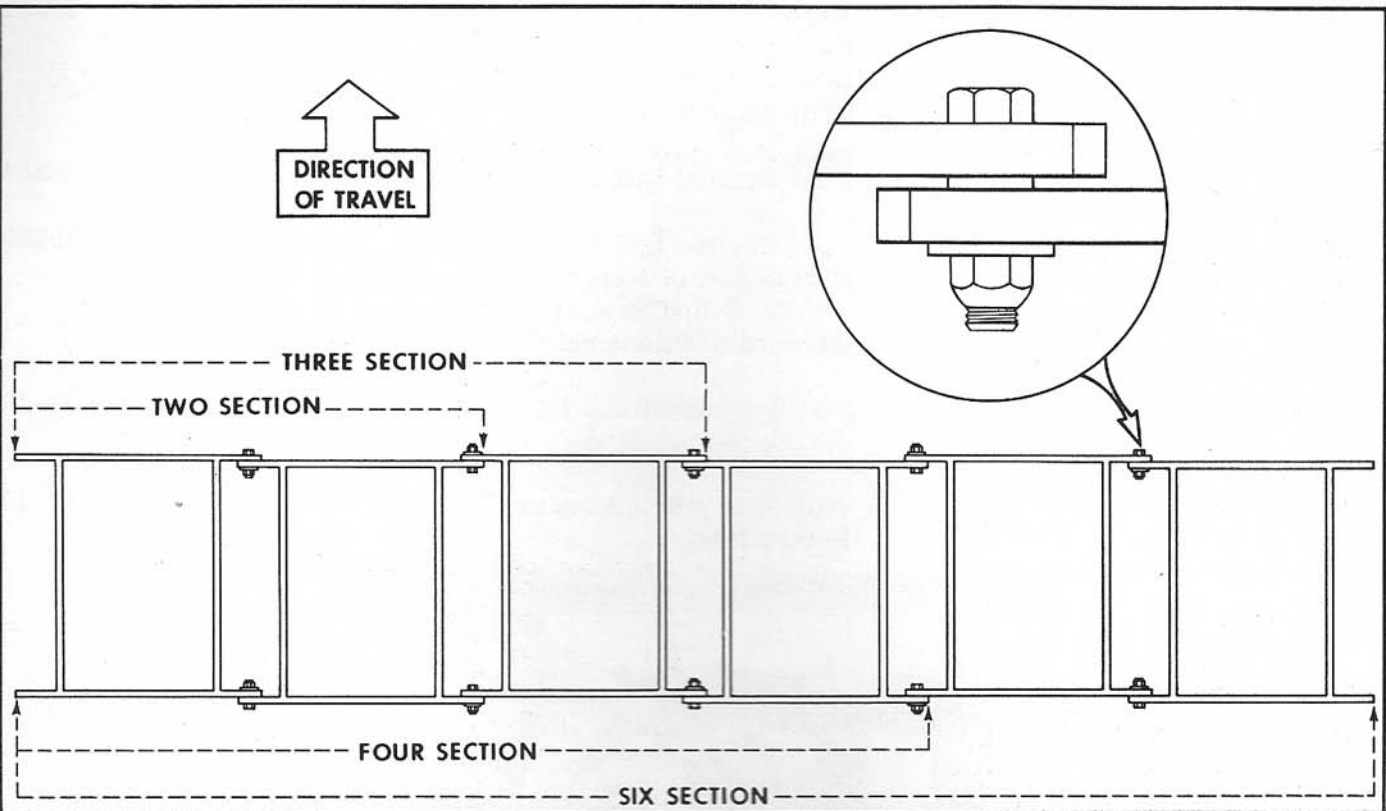

Figure 4
3. Position the rotary hoe sections as shown in Figure 4, according to the number of sections to be assembled. Be sure each section frame properly overlaps the adjoining section as indicated.
4. Attach the section frames together with the 7/16" x 1-3/4" hex head bolts, spacers, washers and hex lock nuts provided, as shown in the insert, Figure 4.